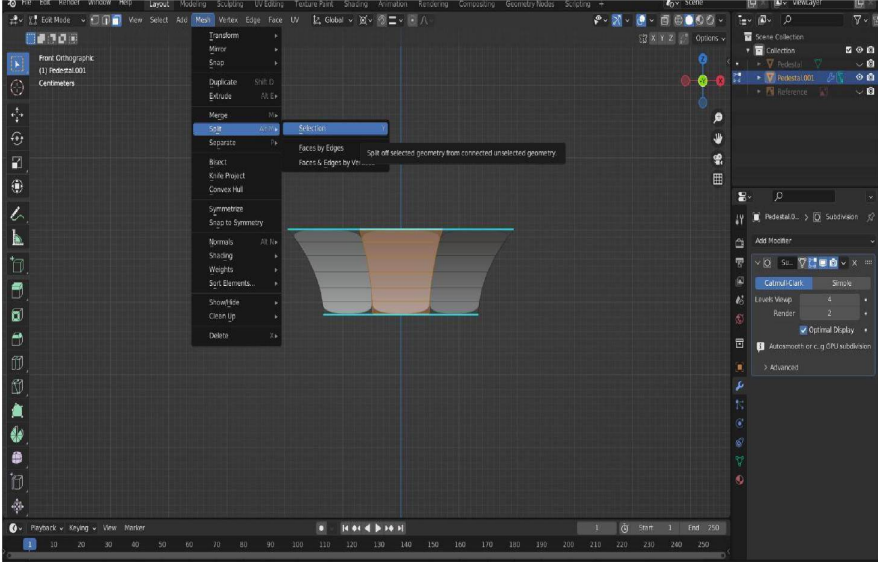

Figure 6.7: Middle column of faces selected
9. Under Mesh in the upper-left menu of the **3D Viewport**, select **Split > Selection** as shown in *Figure 6.7*: